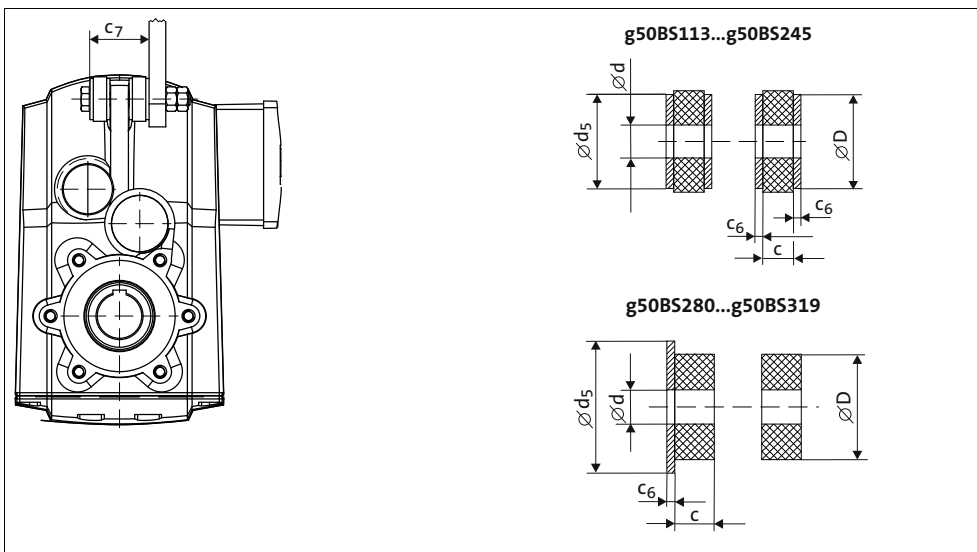

Fig. 16 Dimensions of washers and rubber buffers
- Mount the rubber buffers with the washers in the fashion shown (Fig. 16) on both sides of the gearbox torque plate and at the fixing strap of your machine.